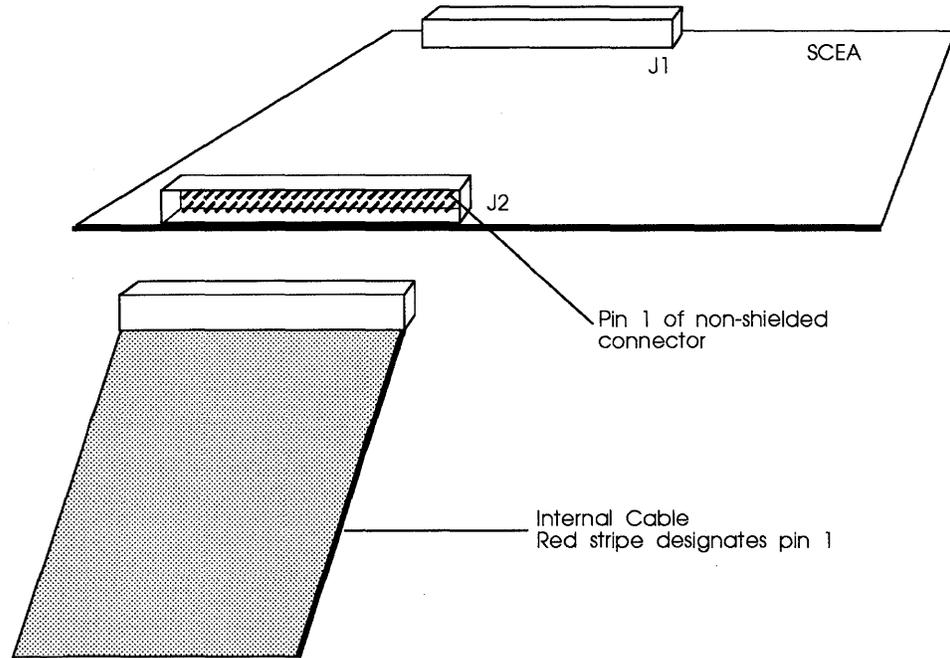

Figure 3-7: Device SCSI port (J2) cable connection
- 9 Connect one end of a SCSI cable to the SCEA at J2, Device SCSI port; pin 1 of the cable and pin 1 of J2 *must* align to prevent damage to the system (see Figure 3-7).